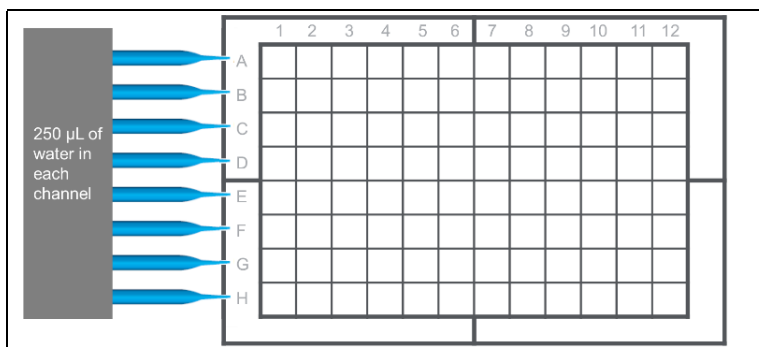

Figure 6. Fill the moats using an eight-channel P1000 pipettor.
- 3 Fill the four moat chambers around the wells with water using an eight-channel P1000 pipettor set to 250 μ L (Figure 6). This will result in 1.0 mL volume in each moat chamber (four tips can fit into one moat chamber). If no multichannel pipette is available, fill each chamber of the moat with 1.0 mL water.